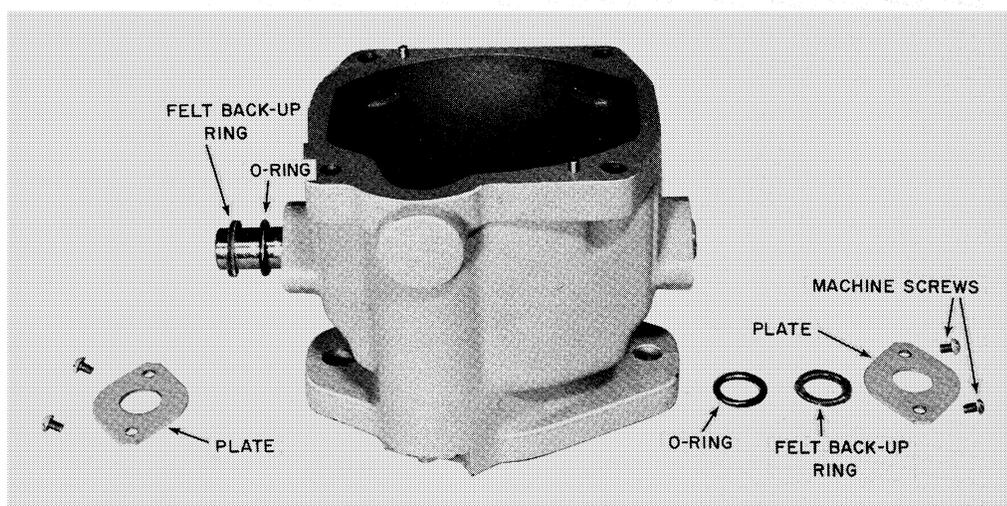

FIGURE 31
21. Remove the machine screws and the plates from both pintle shaft ends. Now remove the felt back-up ring on the O-ring. See Figure 31.